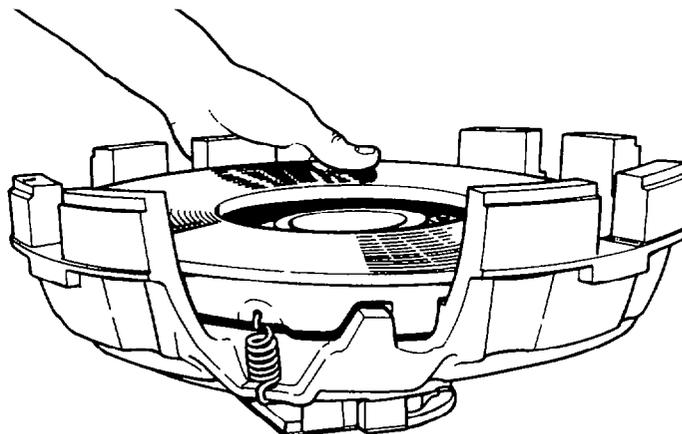

Fig. 169 — Pressure Plate Return Springs
- i. Fit the pressure plate into the housing so that the punch or scribe marks are aligned; fit the return springs to the assembly (see fig. 169).